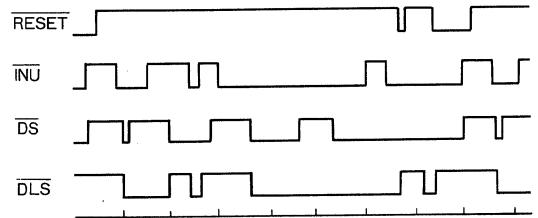

Fig.20 IUOPO=L
(4) INUSE LED (Table6, 7, Fig.20, 21, 22, 23参照)